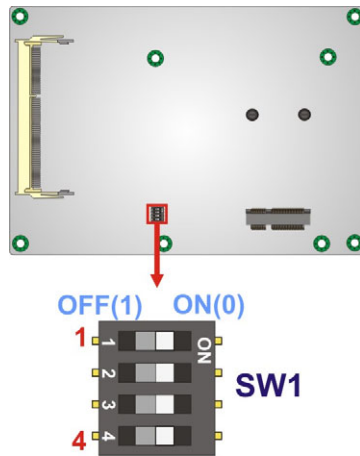

Figure 4-6: LVDS2 Resolution Selection Jumper Location
- Jumper Location:** See **Figure 4-6**